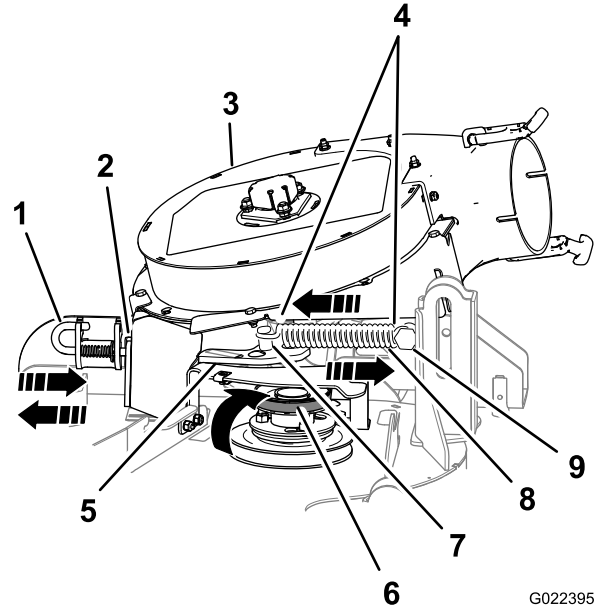

Figure 9
1. Pull the spring loaded idler pulley away from the fixed spring post, and remove the belt from the idler pulley (Figure 9).
2. Move the idler pivot bracket toward the fixed spring post. remove the hook of the spring from the idler spring post (Figure 9).
5. Move the blower latch pin to the open position and swing the blower outward (Figure 9).
3. Open the blower latch pin, close the blower to the deck, and secure the latch pin to the chute bracket (Figure 9).
6. Move the idler/tension pulley toward the fixed spring post, and install the spring by aligning the spring hook on to the idler spring post (Figure 9).